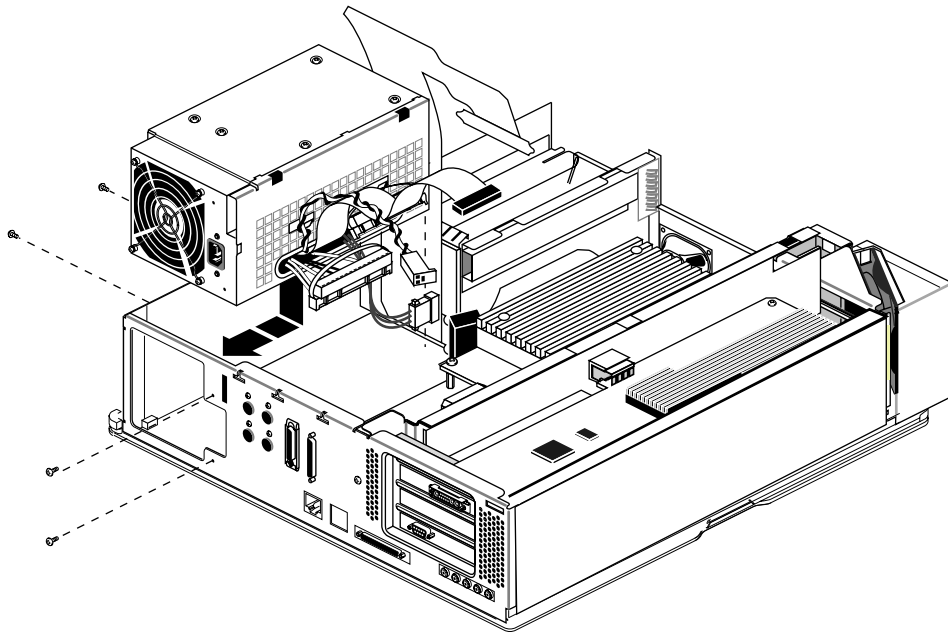

Figure 9-25 Installing the Power Supply
3. Install the new power supply, as shown in Figure 9-25.